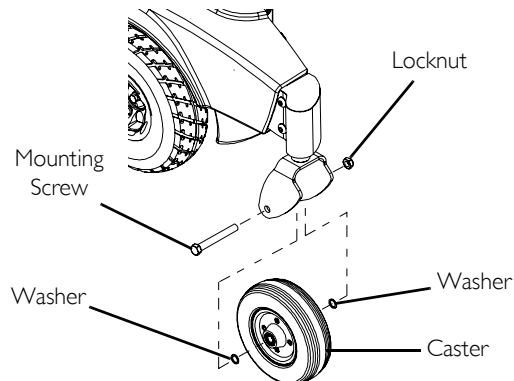

FIGURE 8 Replacing Front/Rear Caster Assemblies
For this procedure, refer to FIGURE 8.
3. Secure new caster to fork with existing mounting screw, two washers and locknut (FIGURE 8). Securely tighten.